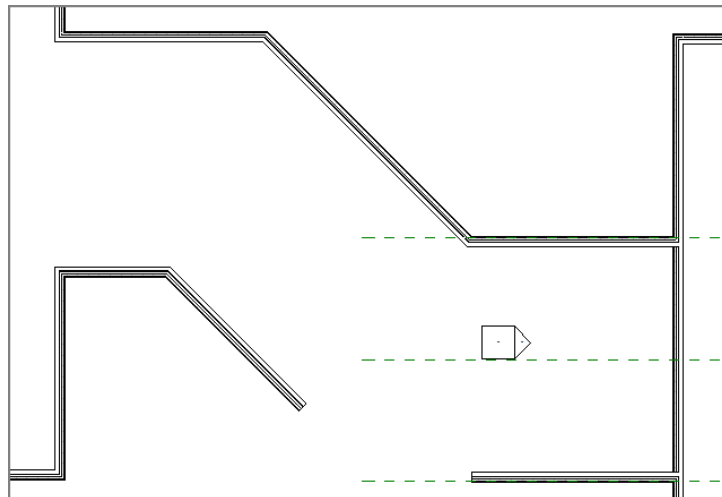

FIGURE 2.13: Creating the bottom of the corridor
32. Repeat the procedure for the angled wall. Make sure you offset the wall to the left (see Figure 2.13).